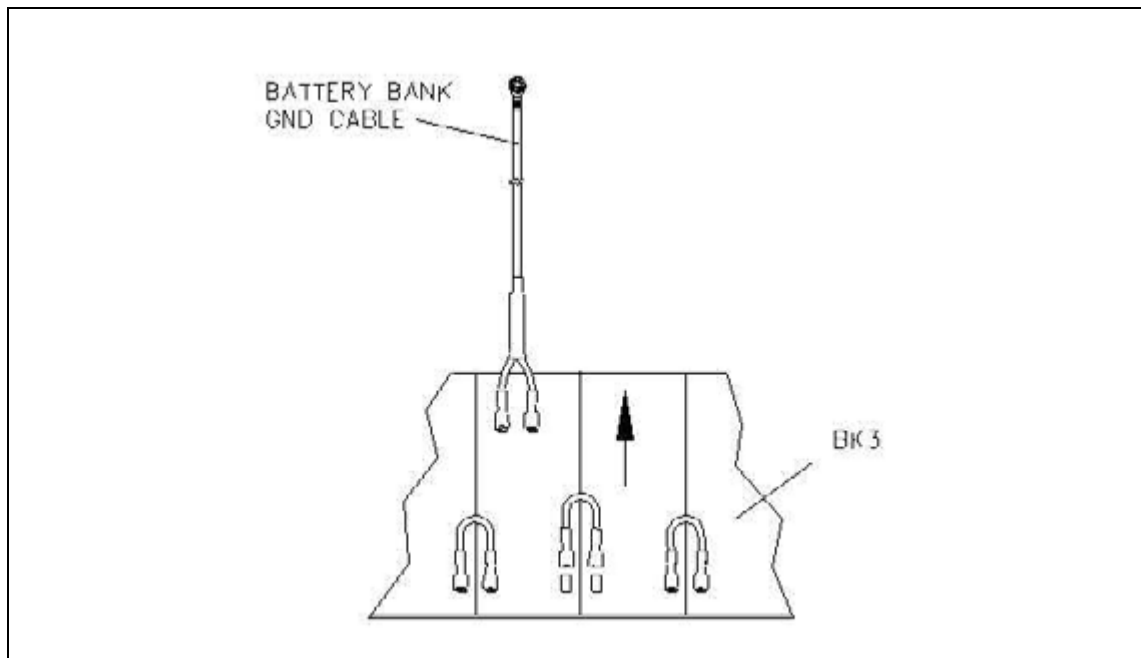
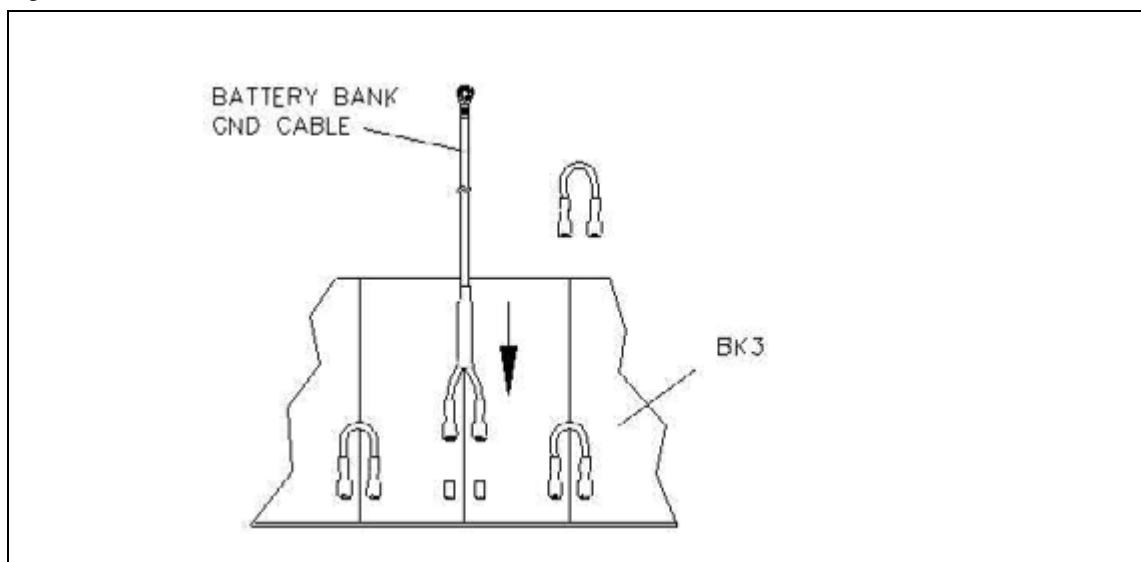

Fig. 31:
Fig. 32:
- When installing the middle battery bank, the jumper (between batteries 4 and 5) must be removed (Fig. 31 / p. 49) and instead the ground connection must be connected as shown in (Fig. 32 / p. 49).